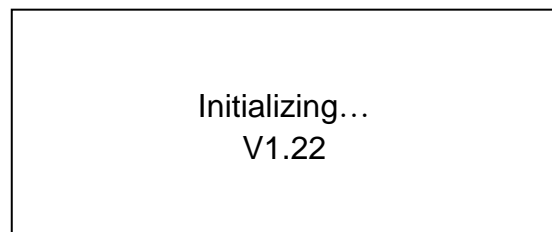

Figure 7-1 Initialization interface
- This centrifuge first starts a self-checking process. Then the LCD Screen displays a welcome interface (see Figure 7-1).